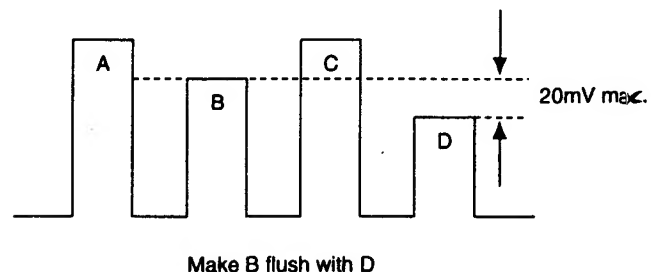

Fig. 5-14
3. Connect the probe of an oscilloscope to IC404 ③ PIN or TP402.
5. Adjust **SUB CHROMA SMPTE** so that the levels of B and D will be the same. (Fig.5-14)